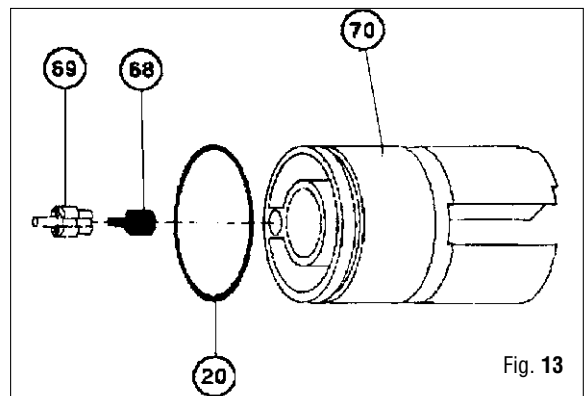

Fig. 13
36. Remove power adjustment rod (35-39) and spring (34) from handle (41).
37. Remove spring (34) from power adjustment rod.
38. Remove power adjustment lever (38) from handle (41).
39. Remove the power adjustment rod bushing (36) and o-ring (37) from handle.
40. Remove O-ring (20).
41. With a pin punch, remove catch hook pin (57), catch hook (50) and spring (44) from the barrel (26).
43. Remove one-way housing (69) and one-way seat (68) from power regulating block (Fig. 13).
44. Remove o-ring (20) from power regulating block.
45. Remove o-ring (71) from barrel with tool A-7.
10. Insert the one-way seat (68) into the power regulating block (70) (Fig. 13).
11. Position the one-way housing (69) over the one-way seat (68) and press into place (Fig. 13).
12. Place o-ring (20) into the groove of the power regulating block (70) (Fig. 13).